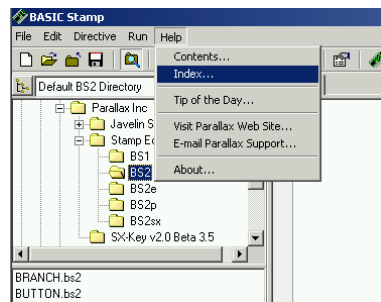

Figure 1-45
- ✓ In the BASIC Stamp Editor, Click *Help*, then select *Index* as shown in Figure 1-45.